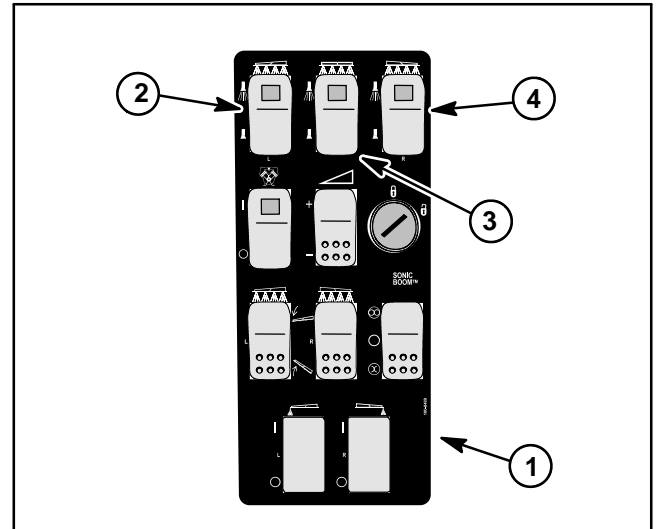

Figure 34
The three (3) spray valve switches for the Multi Pro 1250 sprayers are located on the spray control console (Fig. 34). The switches are identical.